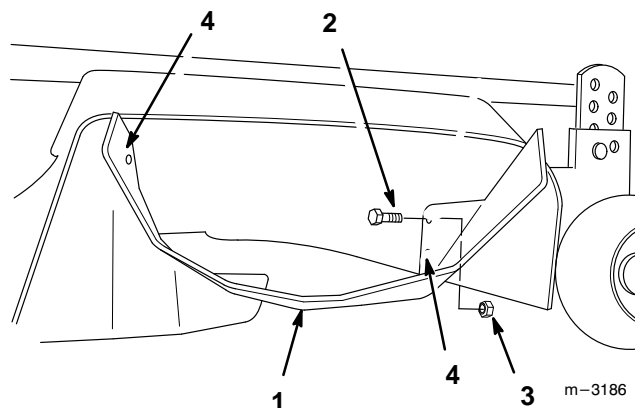

Figure 2
4. Fasten the deflector to the mower with 5/16"-18 x 3/4" (19 mm) hex bolt and locknut. Insert the hex bolt from inside the deflector (Fig. 2).